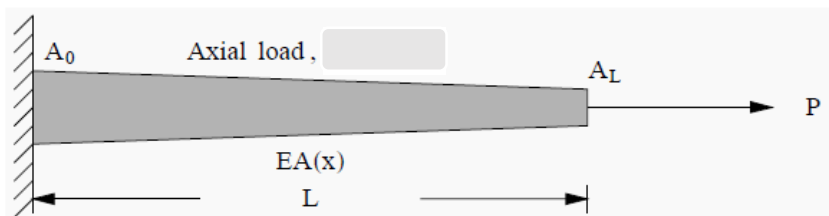

Figure 1
1. (8%) Consider a tapered bar fixed at one end and subjected to a static point load at the other end as shown in Figure 1. The bar is also subjected to a varying body load $b(x) = x^4$. The Young's modulus is constant and the area varies linearly from A_0 to A_L where